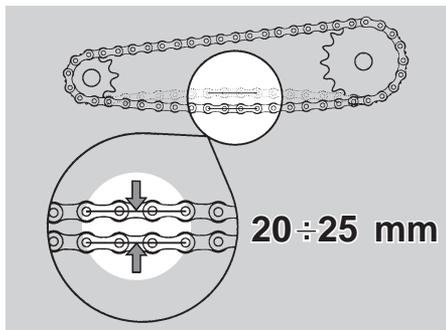

Fig. 33
CHAIN (Fig. 33 ÷ 35)
- ◆ Make sure that the vertical oscillation, in an intermediate point between pinion and crown in the lower branch of the chain, is about 20 ÷ 25 mm (Fig. 33).